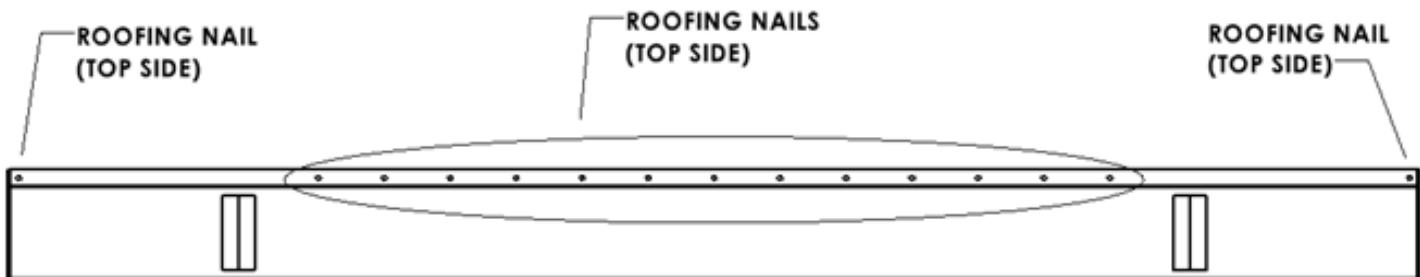
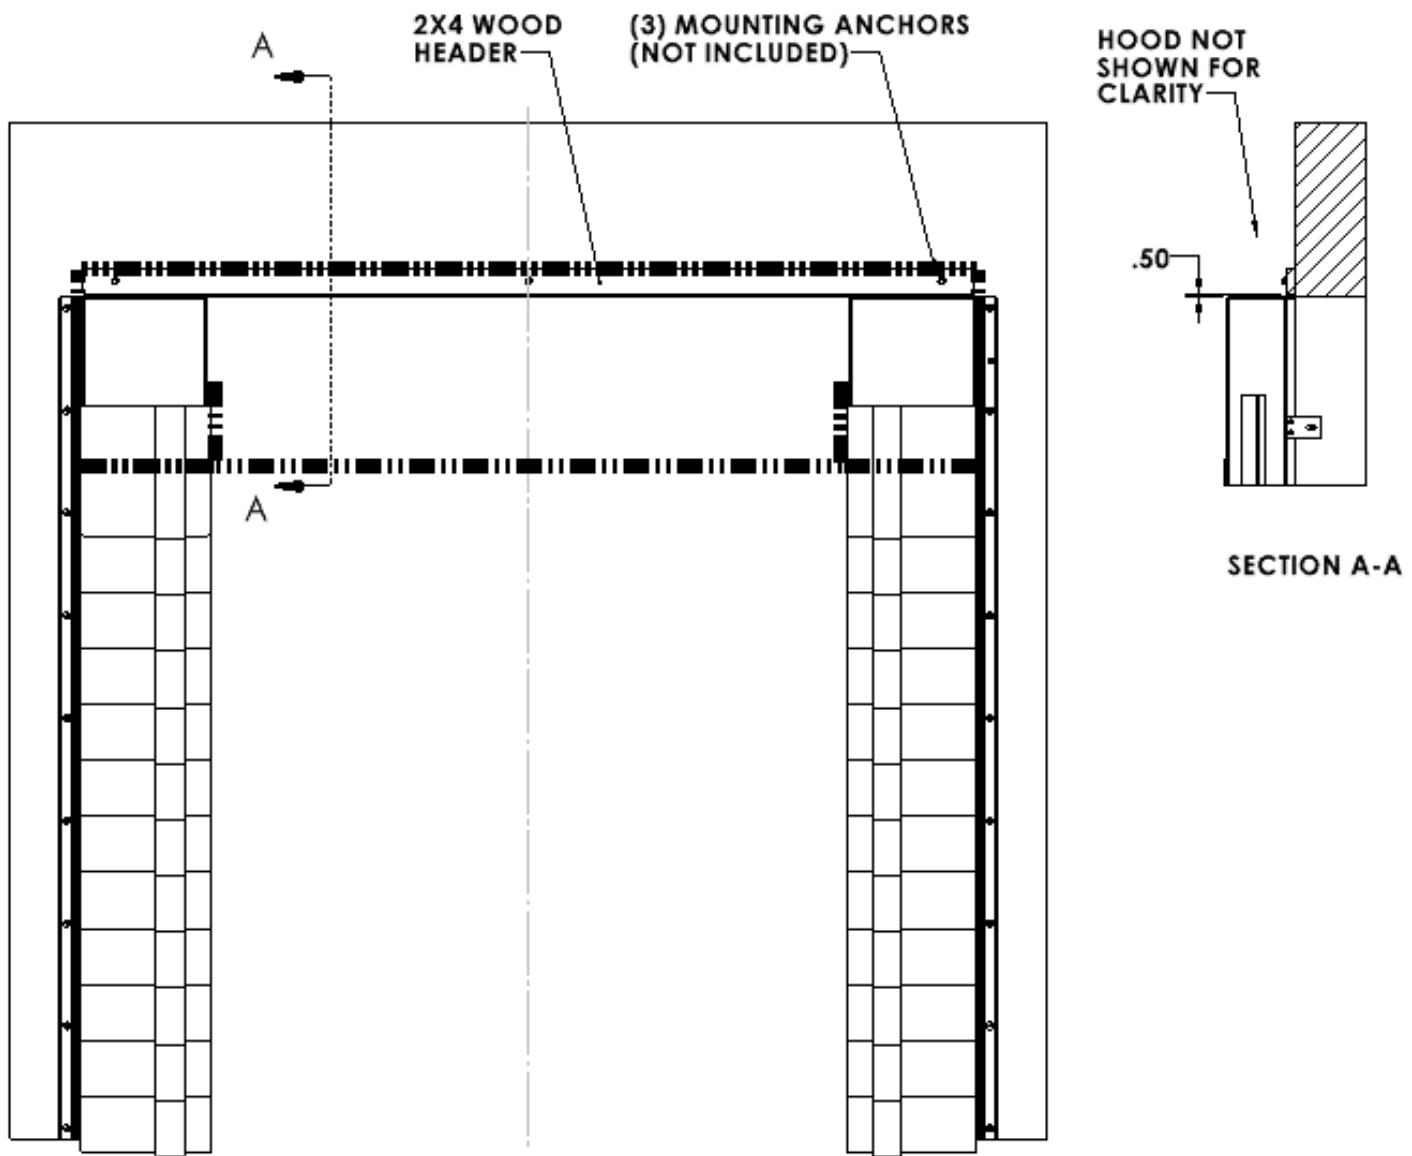

FIGURE 10
FIGURE 11
7. MOUNT LEFT SIDE PAD (C) TO WALL: Same process as Right-Side Pad mounting.
- a. Position the 2x4 Header (F) on the inside top section of the Hood (E) so the 4" back face of the 2x4 Header is flush with the outside edge of the hood's top lip.
- b. Secure the 2x4 Header (F) to the Hood (E) with a Roofing Nail (J) on the right end of the Hood. Stretch the Hood over to the left end of the 2x4 Header, and then fasten it to the 2x4 Header with a Roofing Nail on the left end (Figure 10).
- c. Fasten the 2x4 Header (F) to the Hood (E) with Roofing Nails (J) in the center top side of the Hood. Secure the first Roofing Nail 30" inward from the left end of the Hood and then secure the 2nd Roofing Nail 30" inward from the right end of the Hood. Then secure the rest of the Roofing Nails 6" apart in the middle as shown (Figure 10).
- d. Insert the Steel Tube (G) into the Hood Pocket.
- a. Position the Hood Assembly horizontally by aligning the center mark on the Hood Assembly (Step 8) with the center marking on the building (Step 1). The Hood Assembly will be centered across the door opening. Position the bottom of the 2x4 Header (F) 1/2 inch above the top of the side pads (Figure 11).
- b. Use (3) anchors provided by the contractor, to attach the Hood Assembly to the building. The mounting anchors will mount through the 2x4 Header (F) into the building; Anchors should be either 1/2" or 3/8" in diameter and 3" long. Position one anchor in the center of the door opening and place the other two anchors near each end (Figure 11).